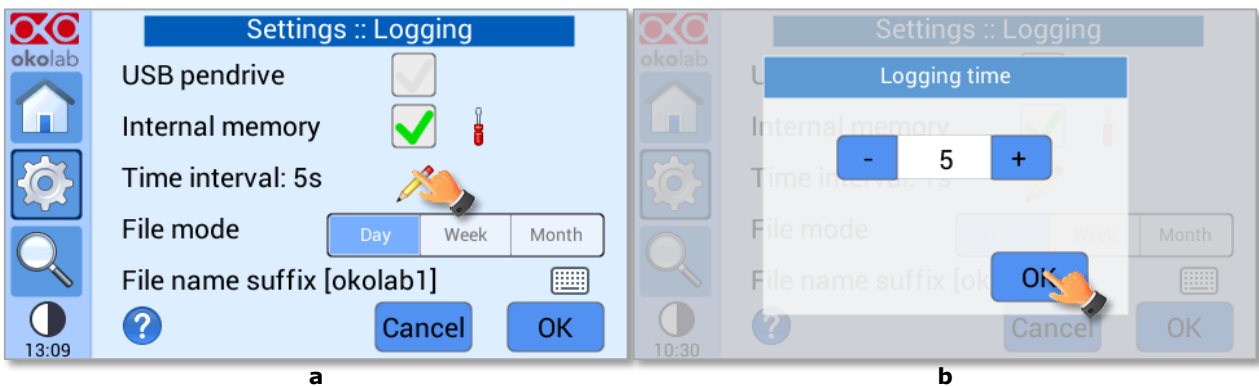
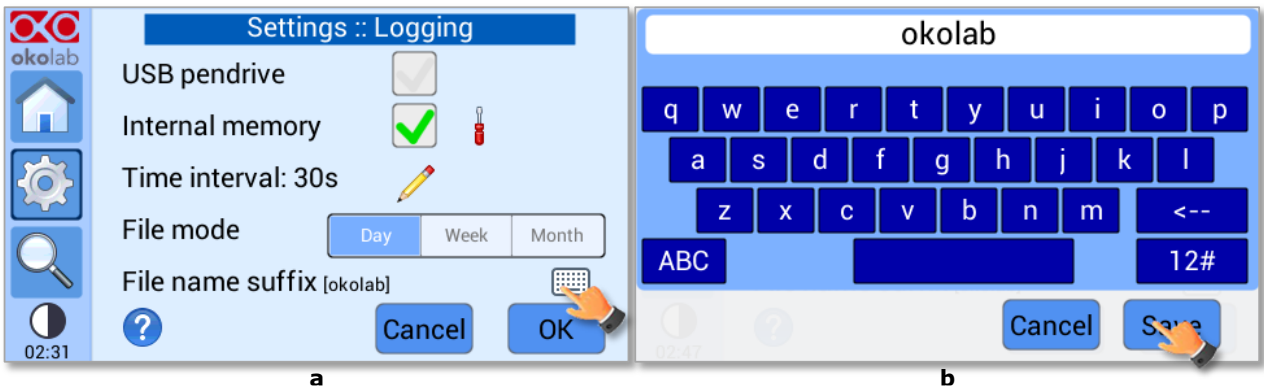
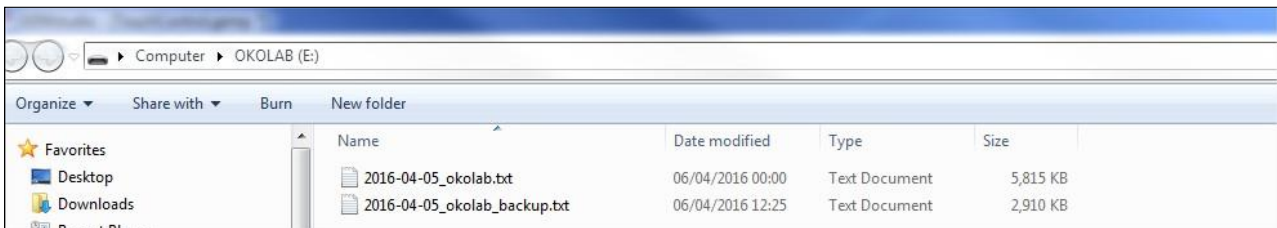

Figure 52. How to set the logging time
Figure 53. Data Logging. How to define the suffix for the downloaded files
Figure 54. Downloaded files on the pen drive
- Press on the icon  to insert the logging time, see Figure 52. You can change this time in the range 1-60 seconds.
- Choose how you want to split the data when downloaded, by pressing on *Day*, *Week* or *Month*, see Figure 52 (a).
- Write the file name suffix to be reported in the downloaded files by pressing on the keyboard icon , see Figure 53(a). Then press on *Save*, see Figure 53(b).
**Tip** ► With the selections done in Figure 52 and in Figure 53, the data will be downloaded in the USB drive as shown in Figure 54.